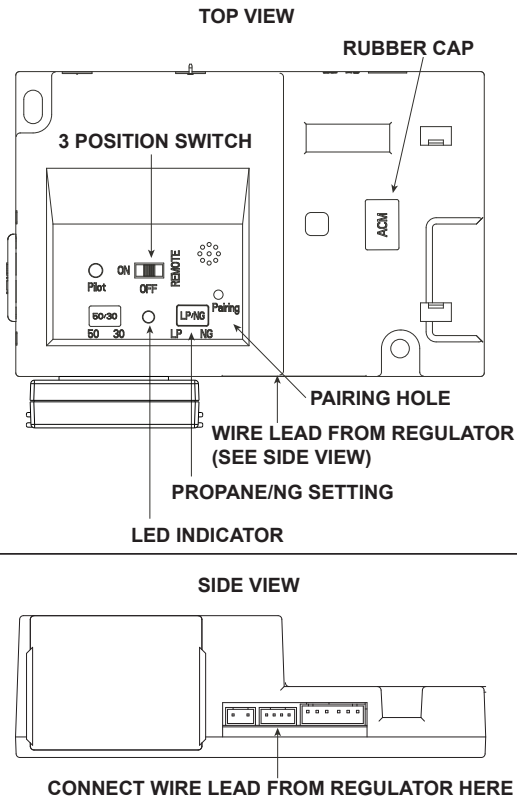

Figure 2. IntelliFire™ Plus and IntelliFire™ Touch Modules
1. Switch control module to OFF mode using selector switch. See Figure 2.
5. Using a #20 tamper-proof Torx screwdriver, remove the regulator and rubber gasket on face of valve. See Figure 1. Disconnect wire lead from module. See Figure 2. 2. Discard both the regulator and gasket.
6. Install the new regulator with the new rubber gasket included in the conversion kit. Be sure the gasket is seated properly. See Figure 1. Connect the wire lead from the regulator to the module. See Figure 2.
7. Adjust the setting on the module to the appropriate gas type. See Figure 2.